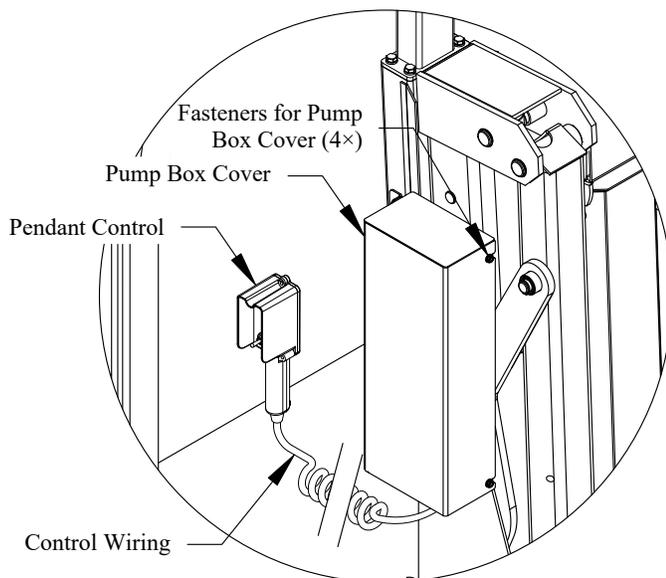

Figure 3: Pump and motor box - closed.
2. **Loosen** the four (4) pump box bolts (Figure 3).
3. **Remove** the pump box cover (Figure 3).